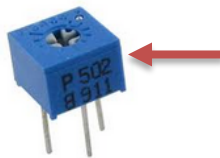

Figure 2.5 – Potentiometer value code location
- Look at the value code of the potentiometer (check Figure 2.5) and write its resistance value in increasing order: \_\_\_\_\_, \_\_\_\_\_, \_\_\_\_\_, \_\_\_\_\_, \_\_\_\_\_